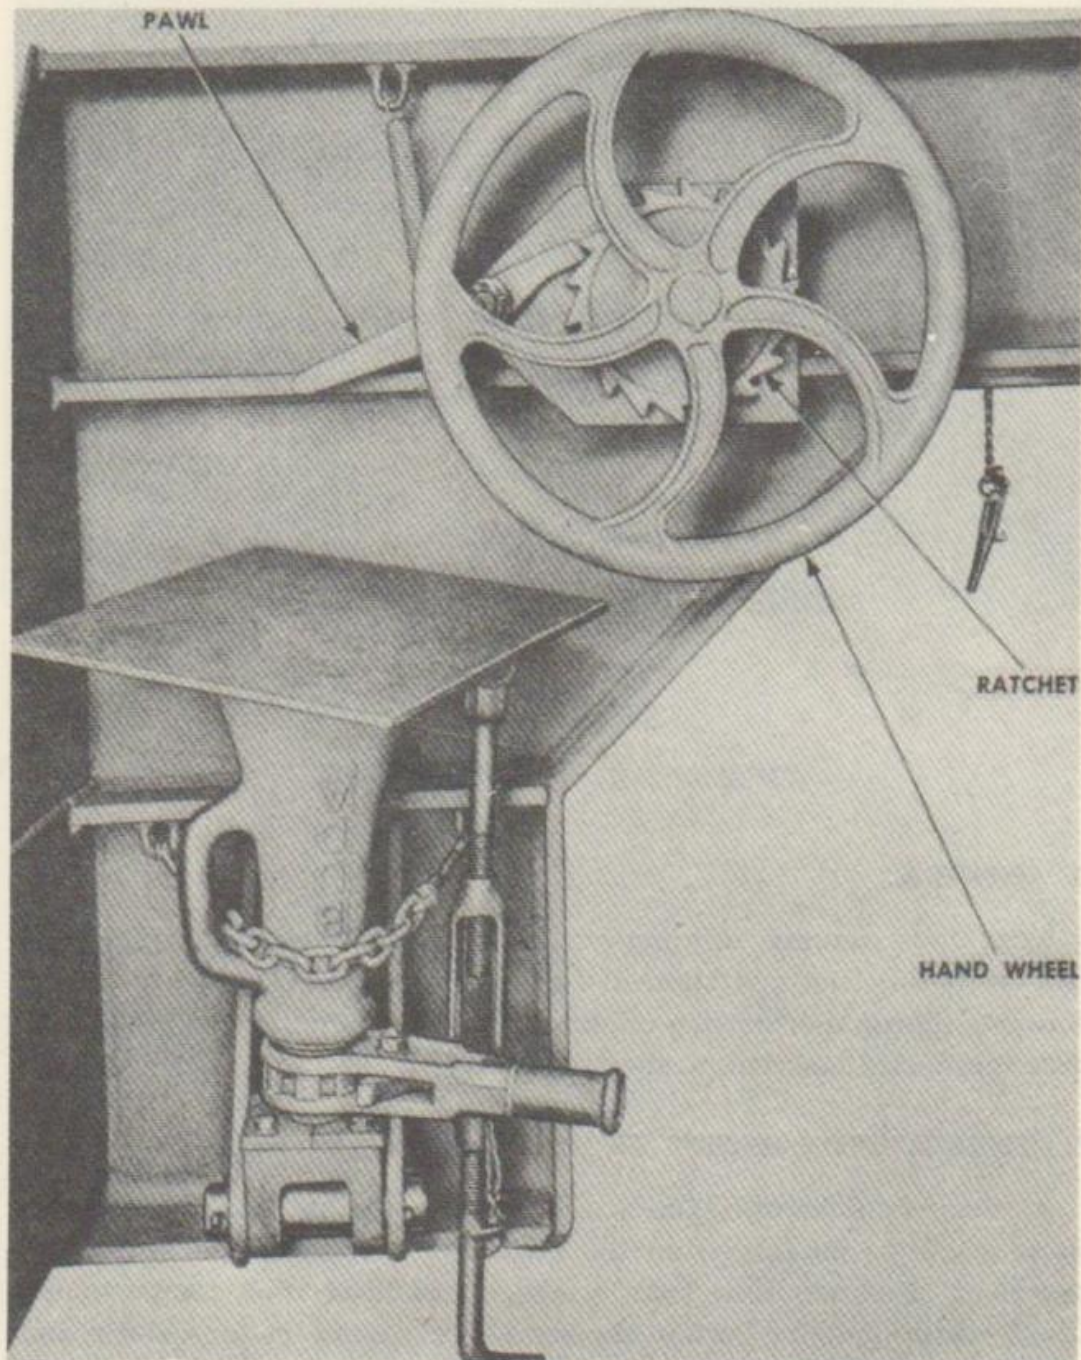
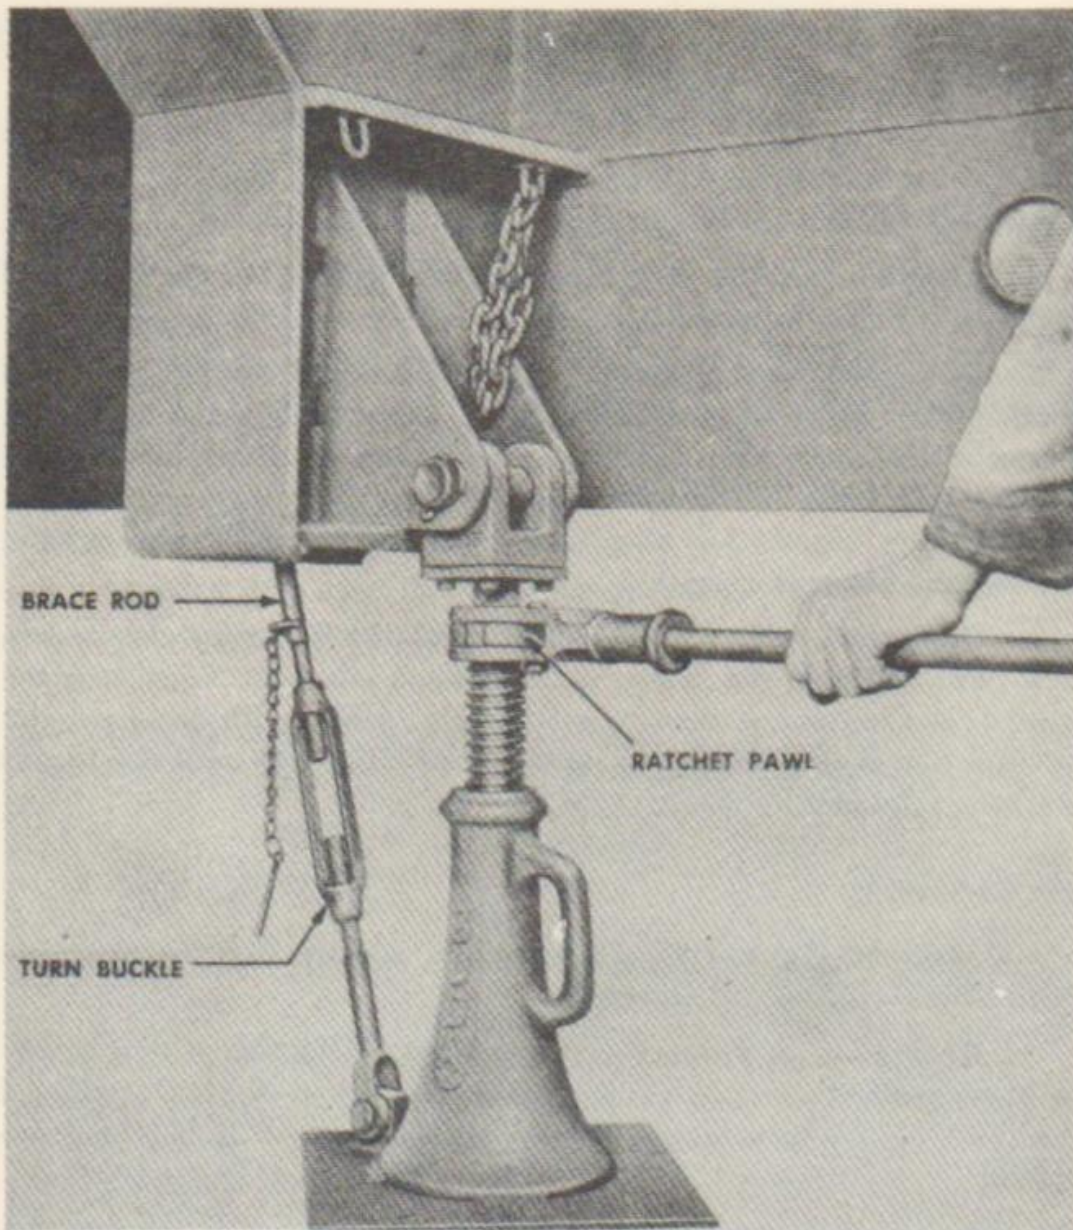
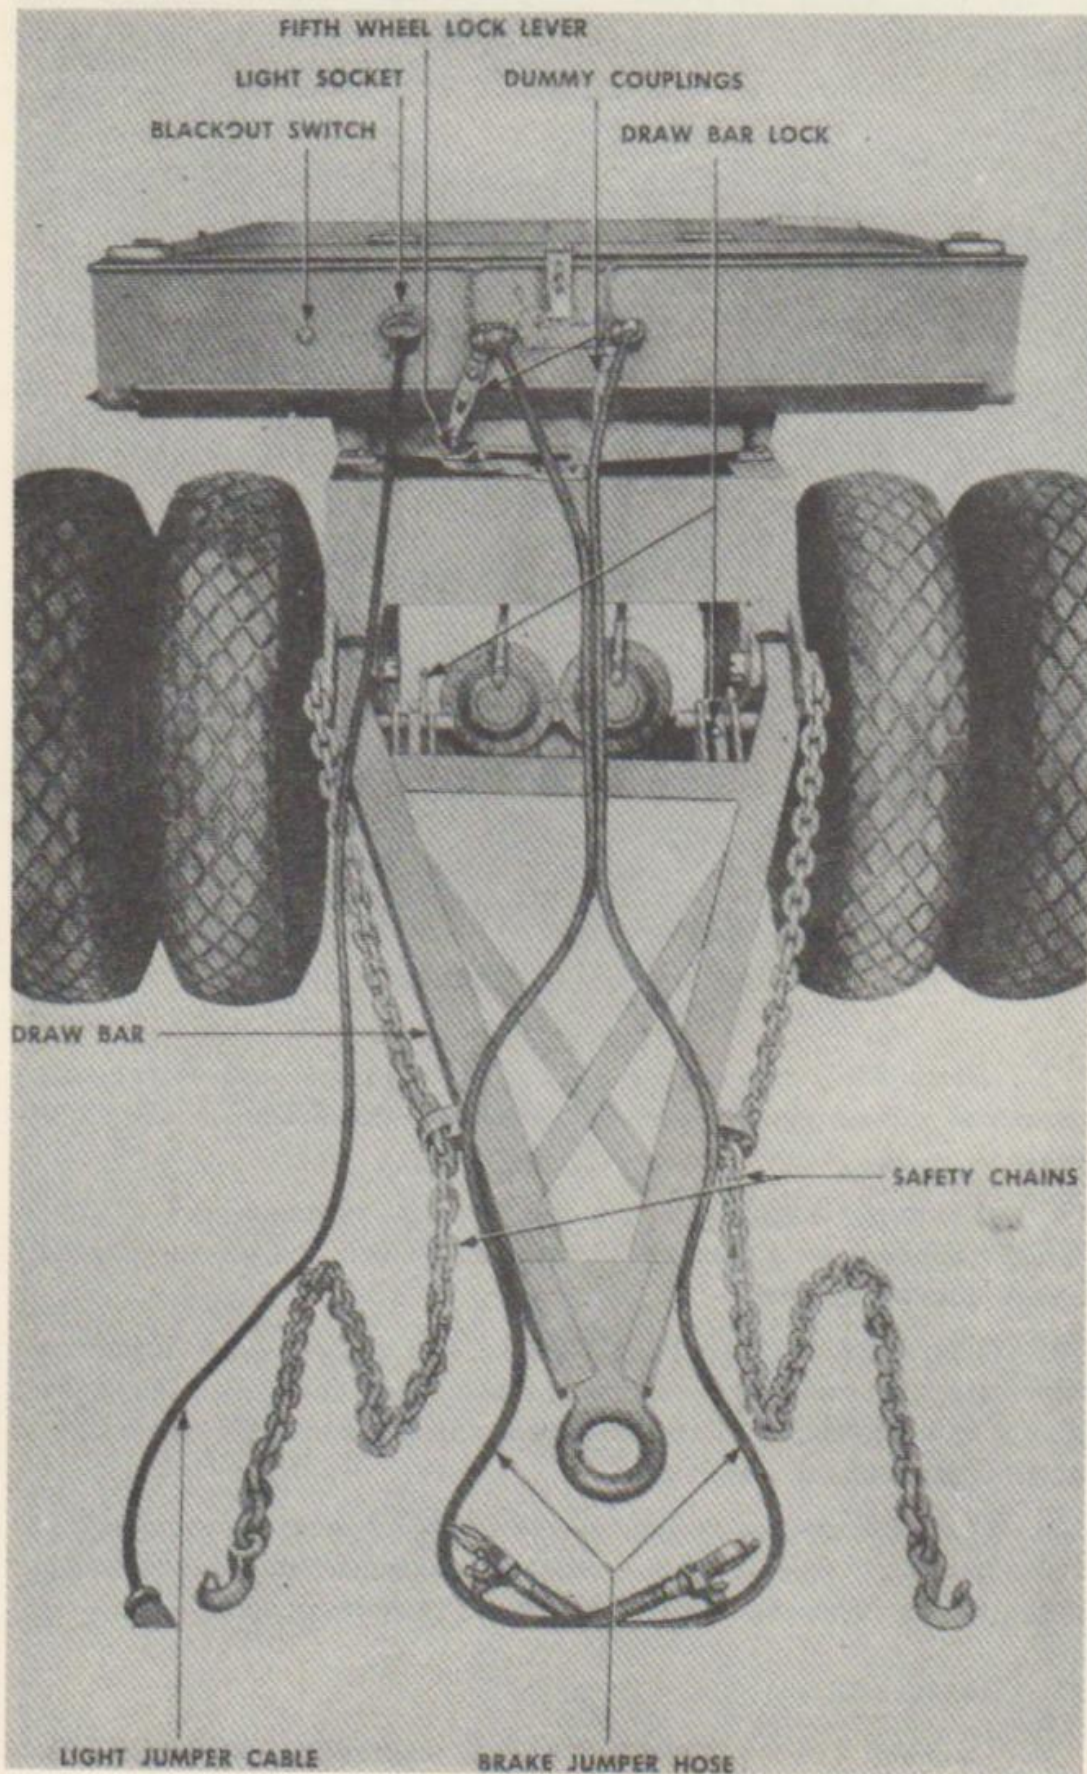

FIGURE 12. HAND BRAKE
FIGURE 13. SUPPORT—IN DOWN POSITION
FIGURE 17. FRONT VIEW OF DOLLY AND SEMITRAILER
a. Location (fig. 12). The hand brake is located on the right side of trailer at drop in gooseneck.
a. Location (fig. 13). The hand brake is located on the right side main frame at drop in gooseneck.
c. Operation. Place jack in the down position by uncoupling snap. Lower jack. Move ratchet pawl so that the pawl will work against the ratchet (fig. 13). Place jack handle into jack and turn the handle counterclockwise until base of jack contacts the ground. Adjust turnbuckle on brace rod to proper length and place end of brace rod into hole at inner side of trailer frame. Place cotter key into brace rod.
(1) A dummy coupling is provided at rear crossmember of dolly. When jumper hose is uncoupled from semitrailer, the hose is attached to the dummy coupler.
(2) The suspension spring is attached to jumper hose to prevent hose from chafing. The suspension spring is detachable to permit spring to be attached to the suspension spring eye when the dolly is uncoupled from the semitrailer.
(3) A cut-out cock is installed in the brake system on semitrailer to enable operator to prevent the air from escaping from the semitrailer brake system when the dolly jumper hose is disconnected.
a. Location (fig. 17). The draw bar is attached to dolly gear frame and is located at the front of the vehicle.
a. Location (fig. 17). Two safety chains are attached to dolly front spring bracket.
b. Description and Purpose (fig. 17). The jumper hose allows air to pass from the towing vehicle brake system to trailer brake system. Both jumper hoses are identical in construction and can be used in either the service line or emergency line. The emergency line and service line on both the trailer and towing vehicle are identified by tags which are attached to the couplings. When coupling jumper hose to trailer and towing vehicle, remove dummy couplings from hose couplings on front of trailer. Make certain the hose ends are matched—service to service and emergency to emergency.
a. Location. (fig. 17). The blackout switch is located on the front crossmember of semitrailer on the right side.
a. Location (fig. 17.) The light jumper cable is stowed in the tool compartment. The socket is mounted on front crossmember of semi-trailer.
a. Location (fig. 17). The fifth wheel lock lever is located on the fifth wheel which is mounted on the dolly.
a. Couple dolly to towing vehicle (fig. 17). Inspect dolly fifth wheel to make certain the lock lever is moved toward right side and inserted in notch. Make certain the two draw bar locks are engaged. Adjust support jacks and turnbuckle on brace rod so that the height of semitrailer at the front will be approximately 1½ inches lower than top of fifth wheel (fig. 13). Back dolly under the trailer so that the king pin, which protrudes below the upper fifth wheel plate on the semitrailer, is centered, or nearly so, with the jaws of the fifth wheel.
f. Remove cotter pins from screw-jack brace rods and raise the jacks. Fasten the jacks in position at side of main frame using the chains provided for that purpose (fig. 12).
a. Place hand brake in the applied position (fig. 12). Lower the support jacks (figs. 13 and 14). Screw support jacks down until most of the weight is relieved from dolly fifth wheel. Close the cut-out cock at underside of semitrailer and disconnect the hose and suspension spring. Install dummy coupling on coupling. Fasten the hose to dummy coupling and attach the suspension spring to eye bolt provided at rear crossmember of dolly.